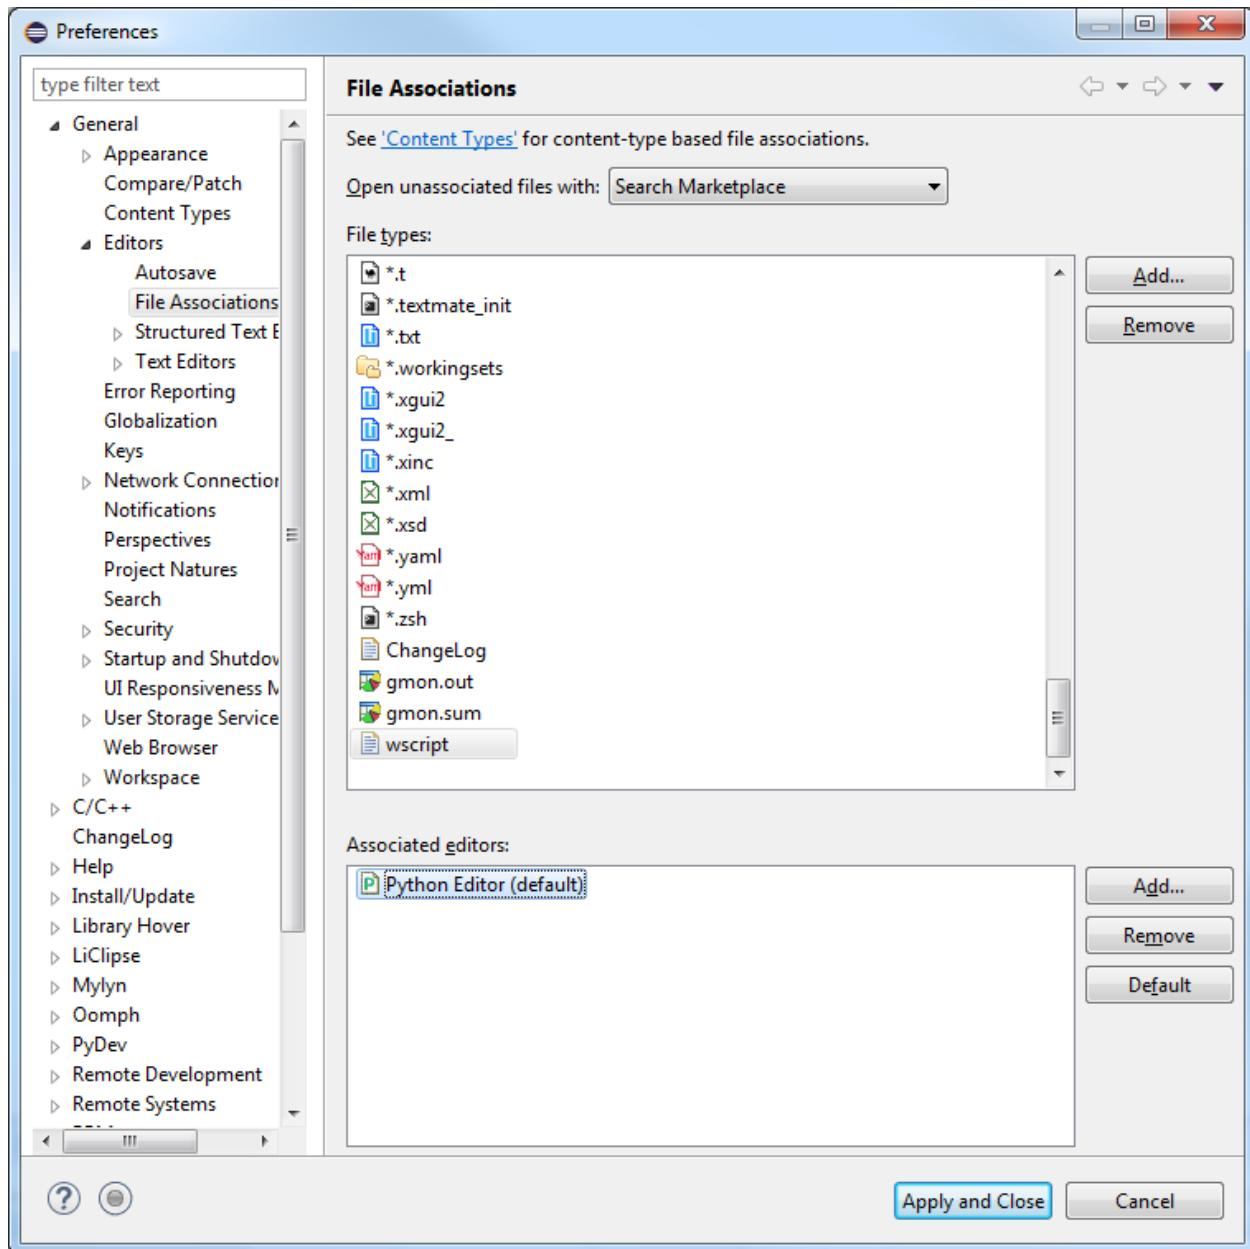

Fig. 11.19: Final file association setting for wscript
6. Finish the configuration by clicking  , as shown in Fig. 11.19.